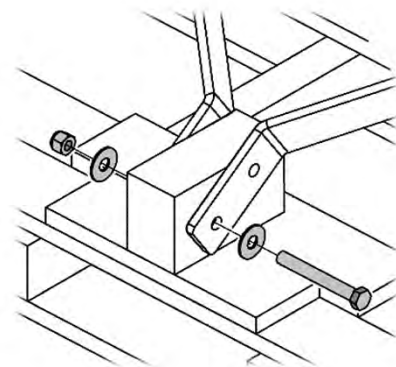

FIGURE 9.2
2. After the front crate panel has been removed, locate the hitch bars that are bolted to the wooden block. This bolt will be removed. See **FIGURE 9.2**